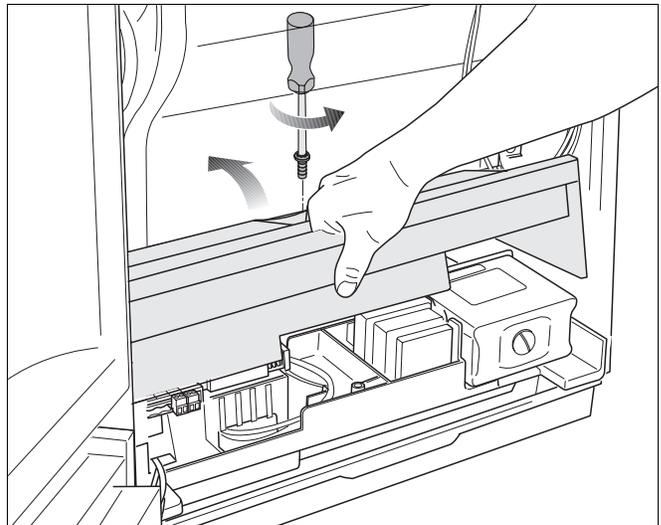

Fig. 29 Removing the cover
- Remove the screw to release the cover over the electrical connections and pull the cover upwards (fig. 29).